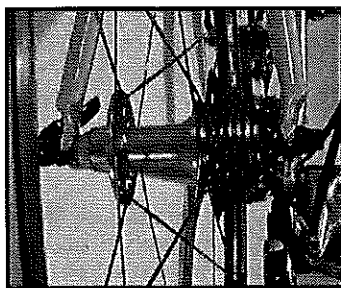

Fig. 14
1. Shift onto the smallest rear cog (Fig. 14).